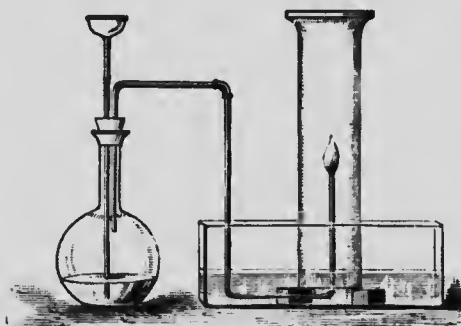

FIG. 8.
**EXPERIMENT 2.**—Arrange apparatus as in Fig. 8. When the hydrogen jet is lit the jar at the right is inverted over